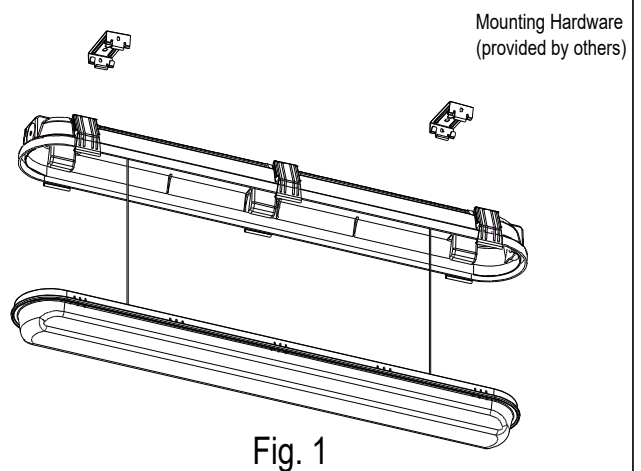

Fig. 1
1. Use appropriate mounting hardware (not supplied) to secure the Snap On Brackets to mounting surface. Fig. 1
4. Feed supply wires through one of the Conduit Plugs (5) to make electrical splices. Cord-grips (2) are provided and can be used based on application.